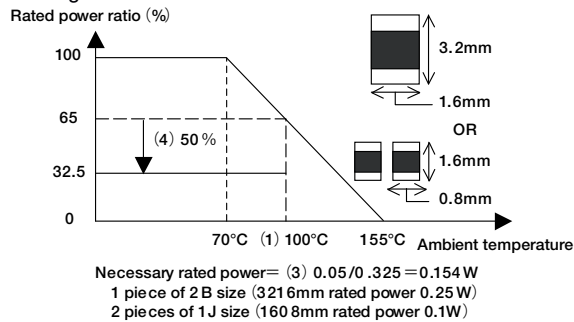

Figure 6. Selection by the traditional derating curve
The required power rating for the resistor using the ambient-temperature derating curve is calculated from conditions (1), (3), and (4). Figure 6 shows this result. For KOA's RK73B resistor series, either a single 2B (1206) size resistor or two 1J (0603) size resistors will be required.